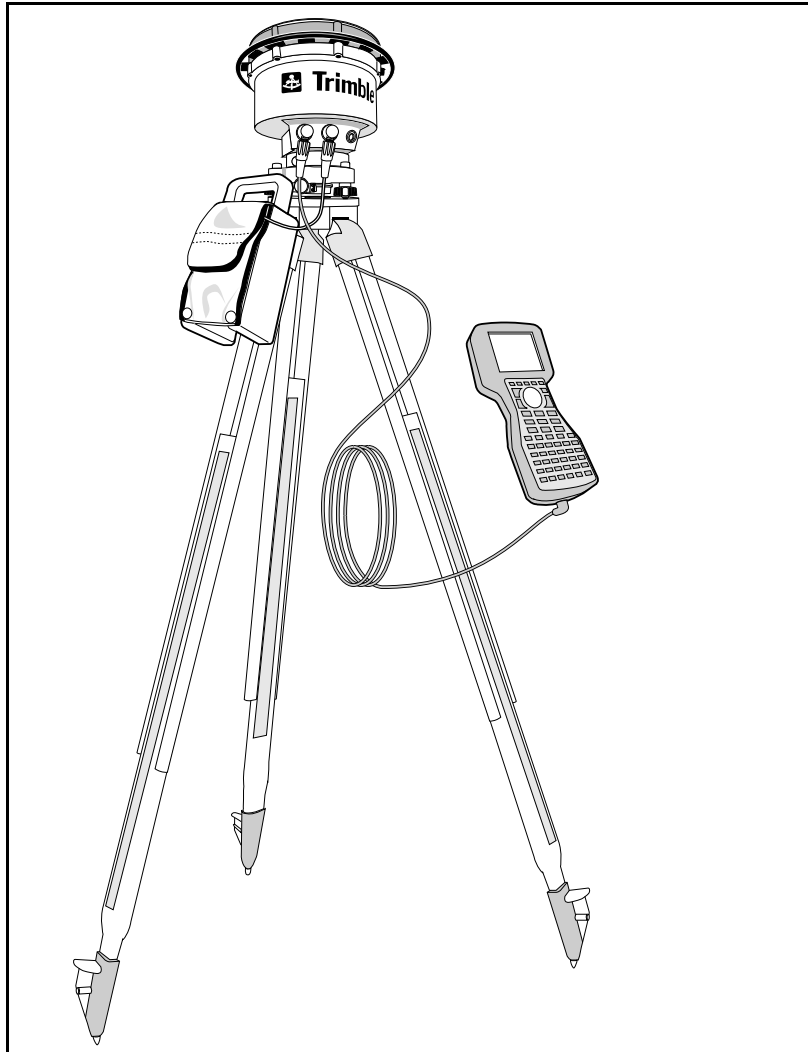

Figure 8.8 RTK base station setup for Asset Surveyor with GPS Total Station 4800
1. Set the 4800 unit over the ground mark using a tripod, a tribrach, and a tribrach adapter, as shown in Figure 8.8.